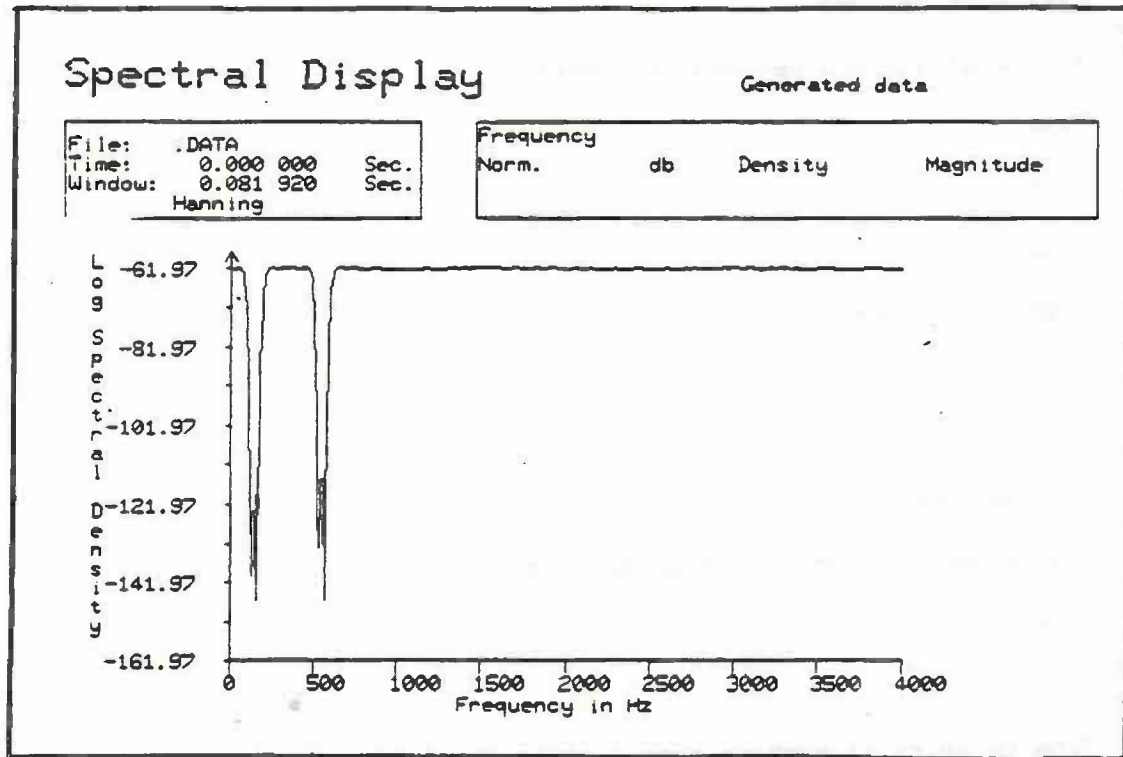

Figure 11.10
11. Position the cursor on a frequency outside of the stop bands and press PF2 to see the scaled up display pictured below (Figure 11.10).